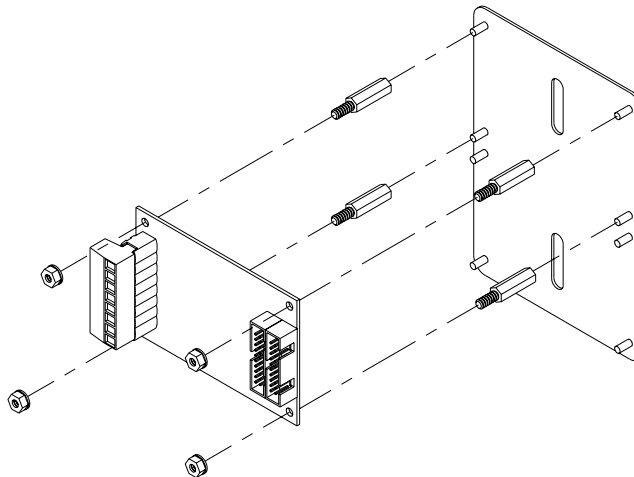

Figure 10-10: Two-Option Mounting Bracket
1. Install the four aluminum standoffs included in each 60 Series Option Kit onto the studs on the mounting plate. See Figure 10-10.